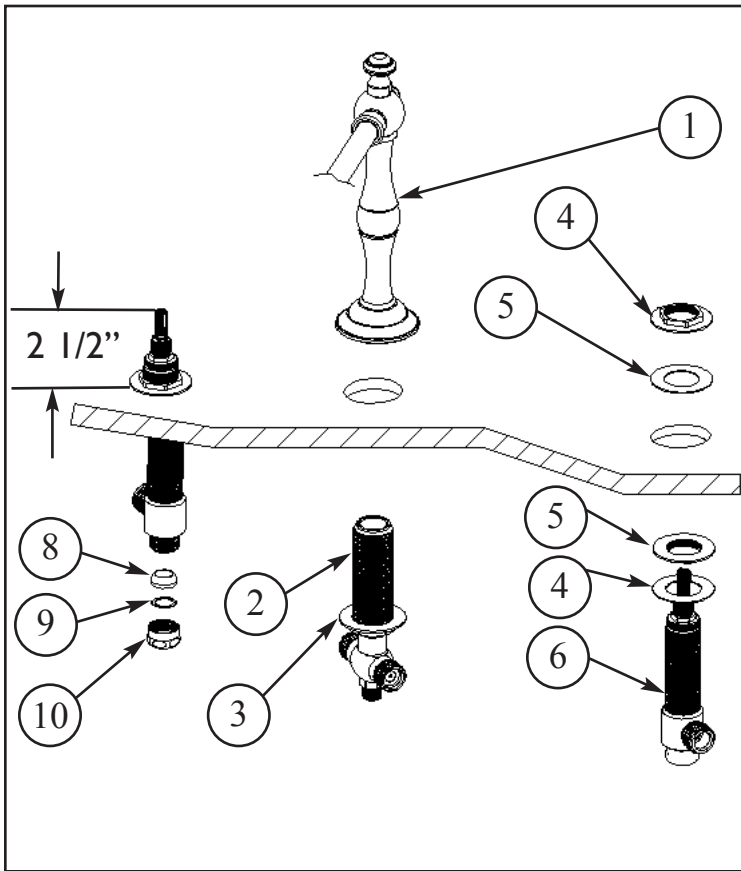

Figure 1
- Place the DIVERter TEE (2) through sink hole of mounting surface. Thread DIVERter TEE (2) into SPOUT (1). Secure SPOUT (1) into place with FLANGE NUT (3). See Figure 1.
- Place NUT (4) and WASHER (5) on VALVE BODY (6). Insert VALVE BODY (6), (blue = cold and red = hot), through hole in the mounting surface. Place WASHER (5) and NUT (4) onto top portion of VALVE (6). Adjust VALVE (6) to proper height of 2 1/2". See Figure 1.
- Attach hot/cold water supply hoses (not included) to appropriate valve utilizing CONE WASHER (8), FRIC-TION RING (9) and NUT (10) supplied. See Figure 1.